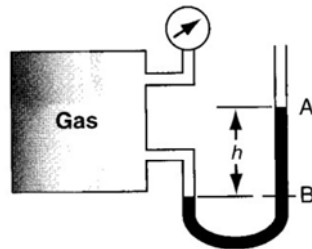

Figure SAT5.3P2
5. A Bourdon gauge and a mercury manometer are connected to a tank of gas, as shown in Figure SAT5.3P2. If the reading on the pressure gauge is 85 kPa, what is  $h$  in centimeters of Hg?